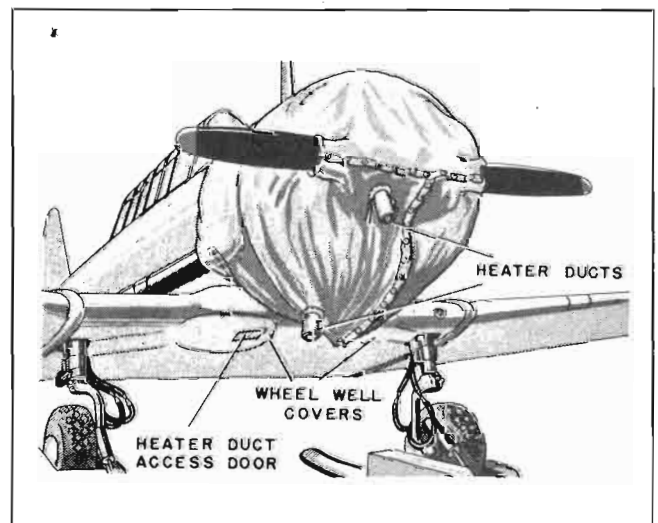

Figure 401 — Engine Cover
c. ENGINE COVER.—(See figure 401.)—To facilitate the warming of the engine under conditions of extreme cold, specially winterized airplanes have been equipped with an engine cover which encloses the propeller hub and extends aft to the fire wall to include the rear accessory section. The cover is made of waterproof fabric and is provided with a sleeve which accommodates a $4\frac{1}{4}$ -inch heater tube for use in heating the front engine section. A heater tube may be inserted through a hinged access door located inside the right wheel well opening to warm the rear engine accessory section. Another access door in the right wheel well cover must first be removed to accomplish this operation.